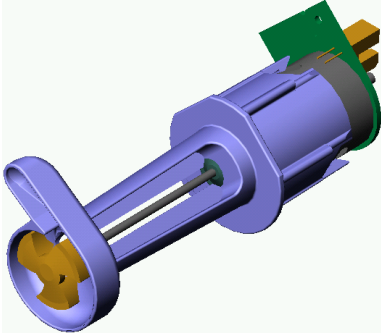

Fig. 3 Pump motor + rotor
- After a selection key is pressed, the pump motor (fig.3) is driven for a certain time, depending on the programmed amount, with a certain speed (number of revolutions).